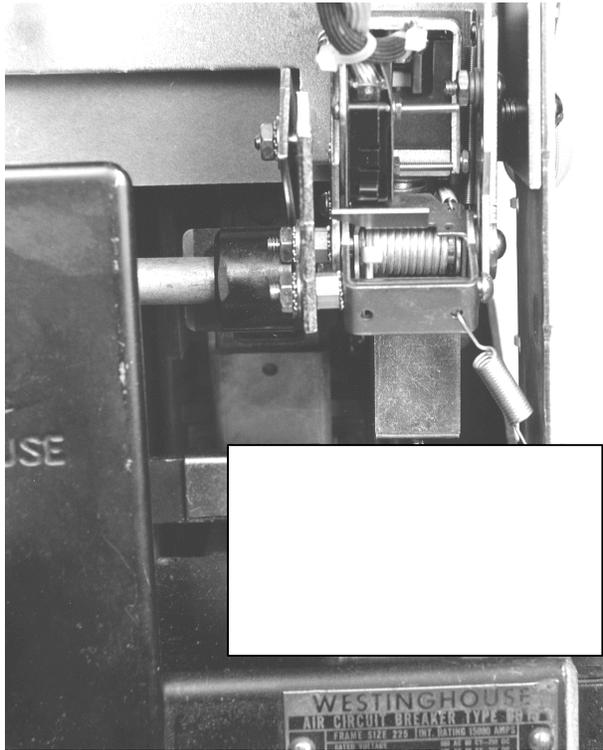

Figure 15. Adjusting the flux shifter.
4. Insert a $\frac{1}{4}$ -20 x $\frac{3}{4}$ " bolt through the hole in the front of the flux shifter mounting bracket, as shown in Figure 15. Secure with the nut and lock washer provided.
With the breaker in the CLOSED position, the gap between the adjustment screw and the end of the flux shifter should be $\frac{1}{16}$ inch, as shown in Figure 15. For safety, OPEN the breaker before adjusting the screw with a $\frac{1}{4}$ -inch wrench. CLOSE the breaker to check the adjustment.